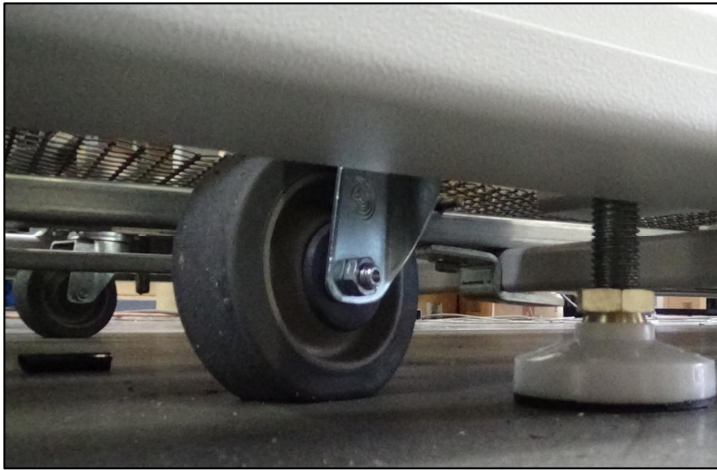
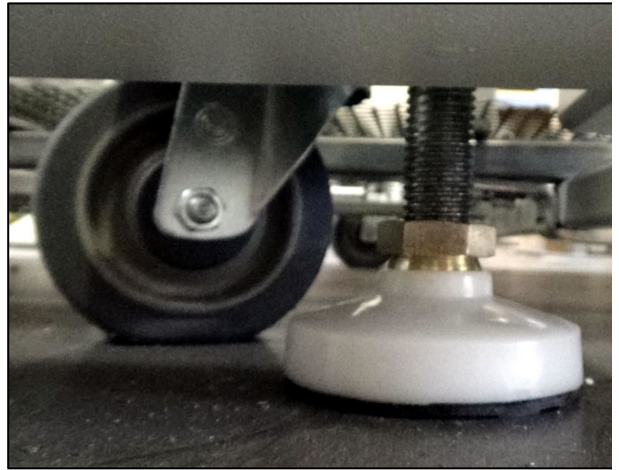

Figure 2-11 Leveling Feet
Figure 2-12 Leveling feet detail
- D. Finally lower any intermediate feet (not at the corners) to $\frac{1}{2}$ turn clockwise beyond just touching the floor to assure load is distributed fairly evenly and all wheels are free. **Figure 2-11** and **Figure 2-12**.